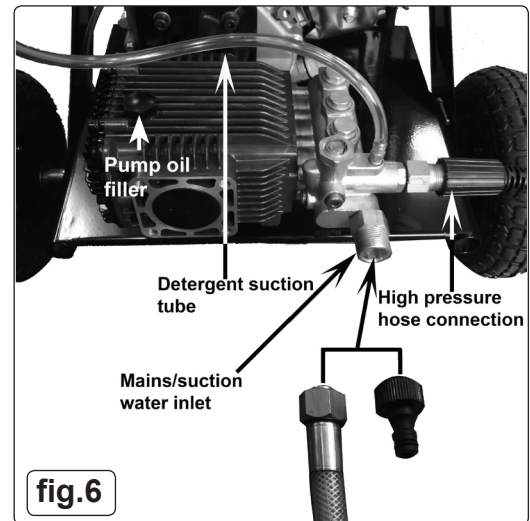

fig.6
- 4.1.4. Attach the other end of the high pressure hose to the pump outlet as shown in fig.6. Push the end of the hose into the pump outlet until it is fully seated and then tighten to secure. Connect either a mains water supply hose or the suction hose to the pump inlet as shown in fig.6. USE COLD WATER ONLY.
- 4.2.2. On the top of the pump outlet is a brass suction injection fitting. Push the detergent input pipe onto the fitting (fig.6) and place the filter on the other end into the container of detergent ensuring that it goes all the way to the bottom. When used with the low pressure black nozzle detergent will be drawn from the container by suctionic action and will mix automatically with the water from the pump. Use Sealey General Purpose Detergent, **AK130 (25ltr)** or **AK131 (5ltr)**. Traffic Film Remover is also available, **AK132 (25ltr)** or **AK133 (5ltr)**.
- 6.3.8. Connect the suction hose to the pump inlet (fig.6).